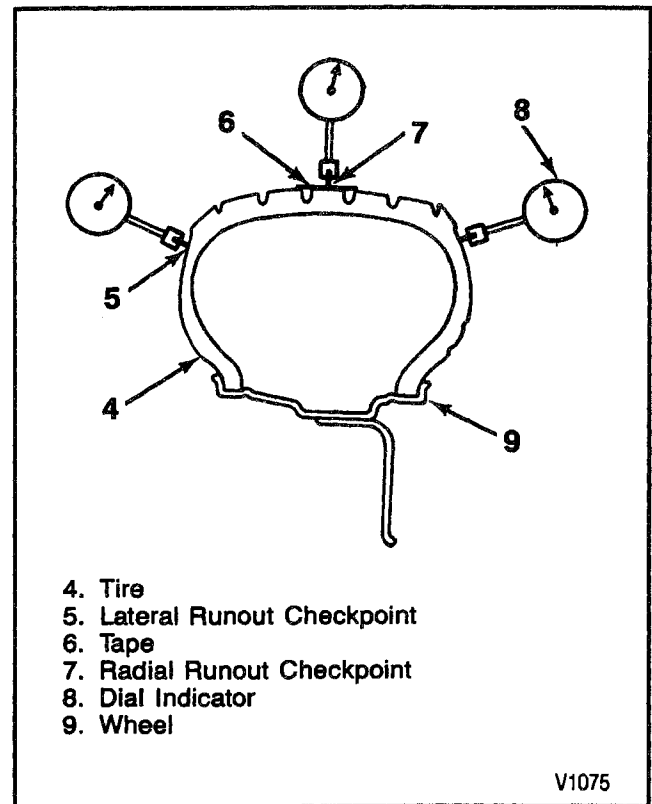

Figure 12—Measuring Radial and Lateral Runout
4. Using a dial indicator with a magnetic base and a roller tip, position it on the balancer so the different runout checks can be done (Figure 12).